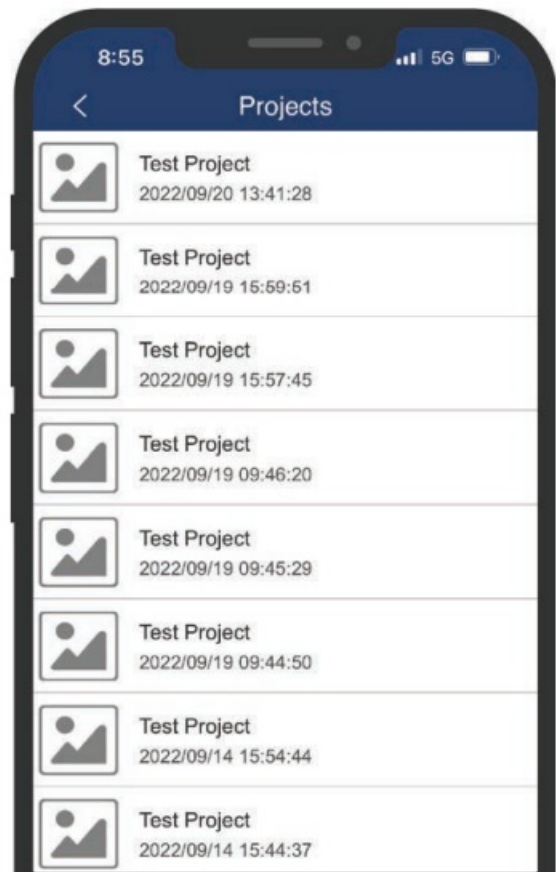

Figure 18
7. When testing is complete, tap on the Stop icon to end the recording session and the data file will automatically be saved in the "Projects" section of the app. (Figure 18)